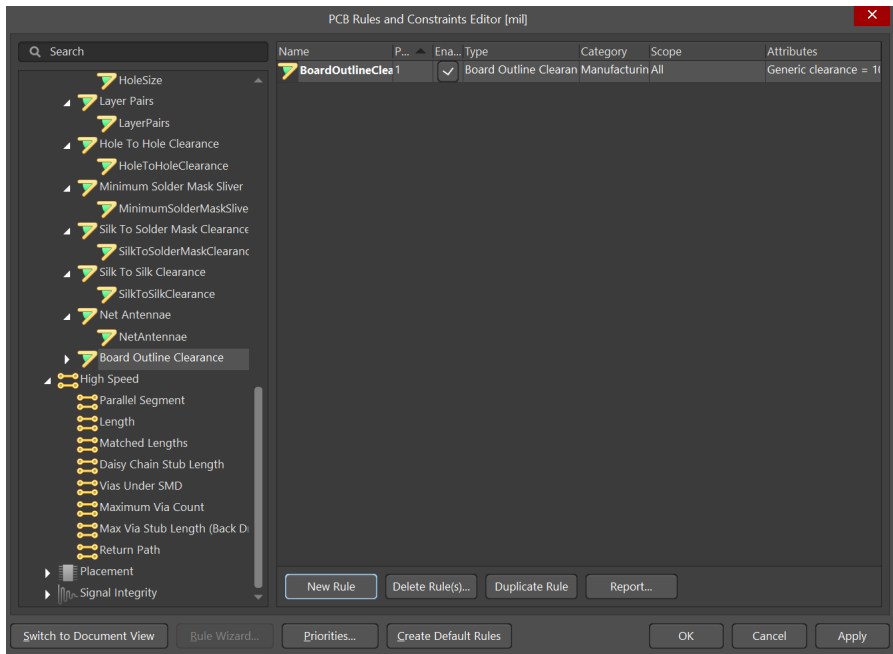
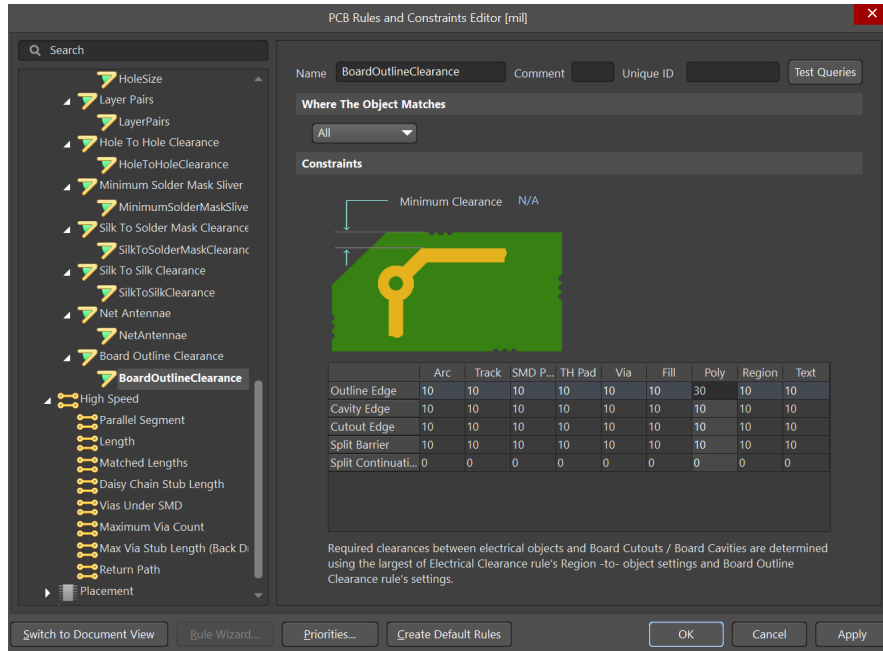

Figure 28: Screenshot of the creation of a new Board Outline Clearance rule
Figure 29: Screenshot of the board outline clearance rule settings
3. Soon we will be adding polygon pours to your PCB. It is best practice to make sure that the polygons are not directly against the edge of the boards, where they risk damage. I like to have mine at least 30 mil away from each edge. To set this in the rules, go into the rules menu then scroll down on the left side of the menu to **Board Outline Clearance** and make a new rule (by clicking New Rule at the bottom), as shown in Figure 28. Double click the new rule to enter its settings. As shown in Figure 29, set the polygon outline edge clearance to 30 while leaving everything else at its default.